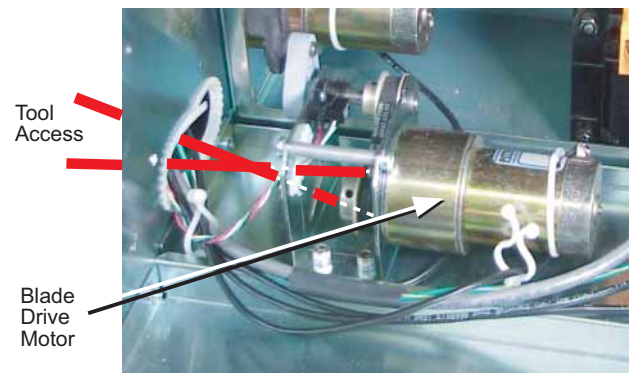

FIGURE 13
3. Remove 2 knurled screws mounting the motor. (This is best achieved by extending a long allen wrench through the large cable access hole in the right side panel and the appropriate access holes in the motor mount bracket.) see figure 13